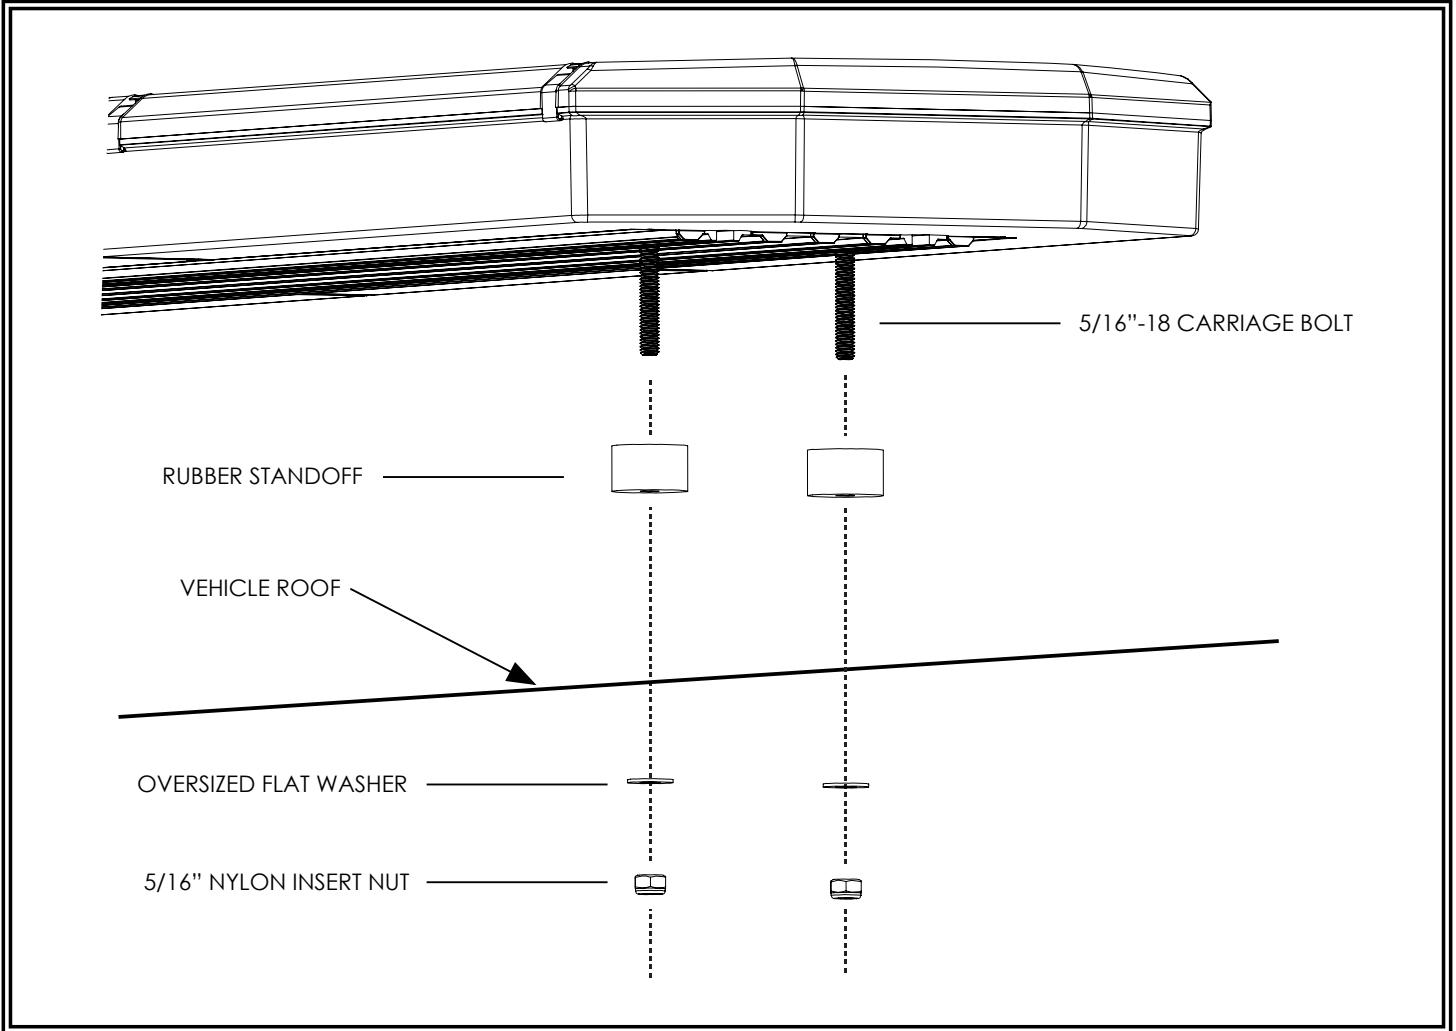

FIGURE 3
4. Mount the lightbar as shown in FIGURE 3 and secure the unit. See the Wiring section of this manual for further wiring instructions.